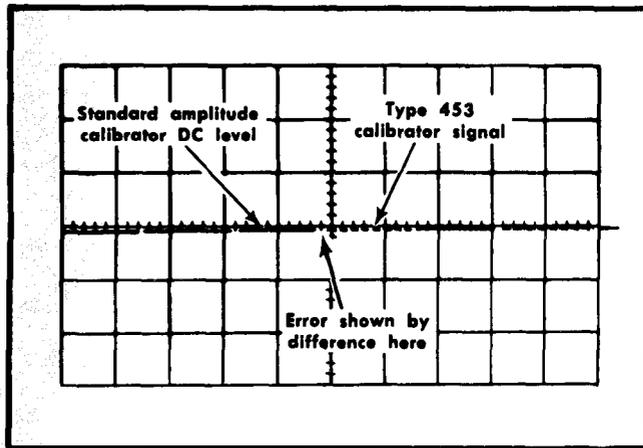

Fig. 5-31. Typical CRT display when checking voltage output of calibrator.
- g. CHECK-Difference between the standard amplitude calibrator output level and the Type 453 Calibrator output is 0.1 division or less (one volt output,  $\pm 1\%$ ; see Fig. 5-31).
- k. CHECK-Difference between the standard amplitude calibrator output level and the Type 453 Calibrator output is 0.1 division or less (0.1 volt output,  $\pm 1\%$ ; see Fig. 5-31).